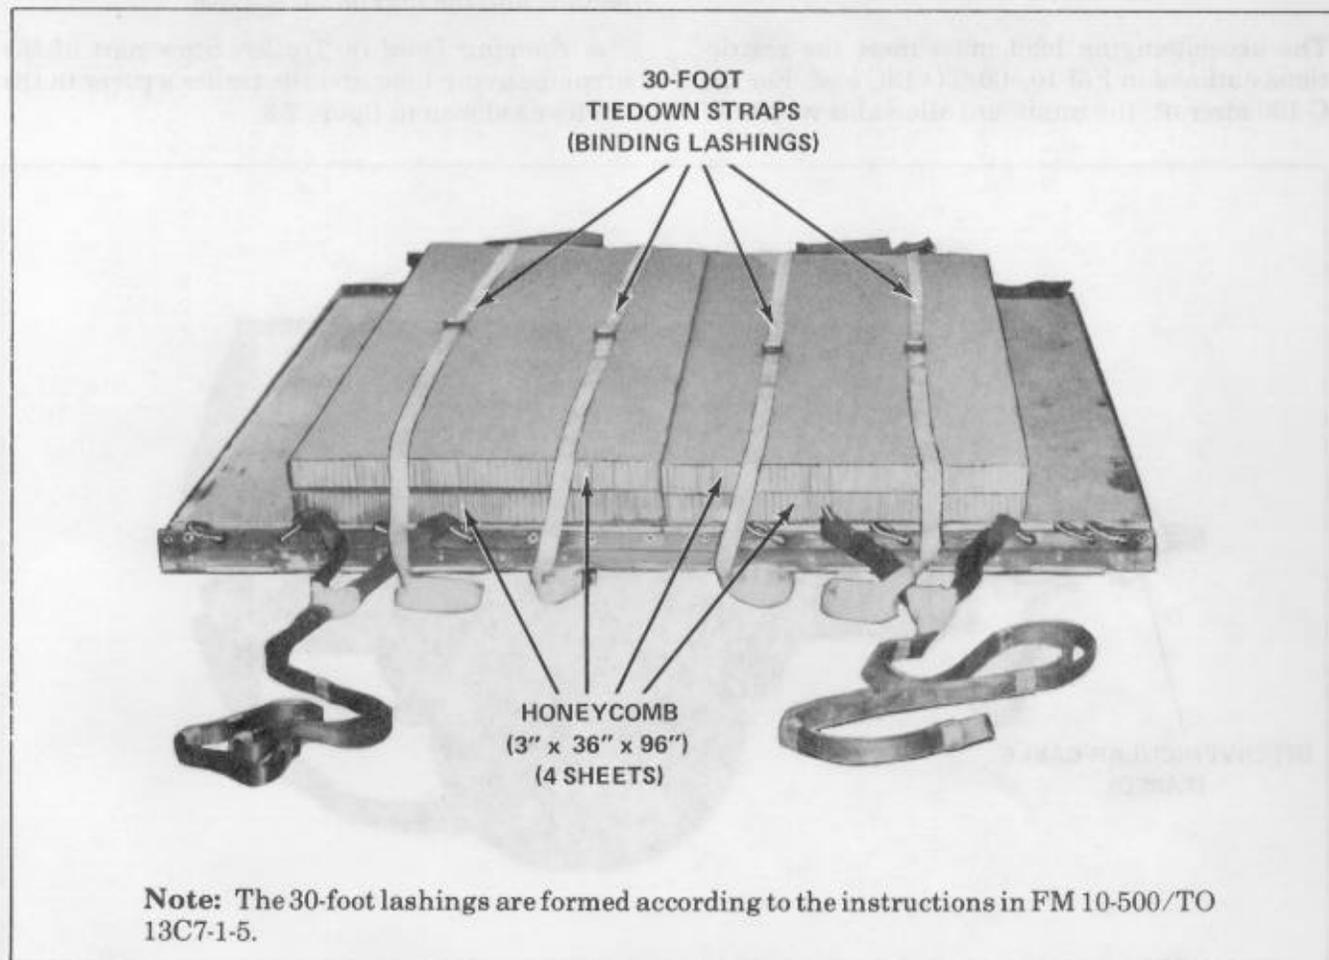

Figure 2-4. Binding lashings and honeycomb sheets positioned.
(1) Position honeycomb sheets and 30-foot tiedown straps (binding lashings) on the load spreader as shown in figure 2-4.
(2) Position seven boxes of 105-mm ammunition on front pieces of honeycomb. Bind the boxes with two of the previously positioned binding lashings. Secure the lashings with two load binders and four heavy-duty D-rings. *Note: Binders must be placed so that they cannot interfere with the positioning of the honeycomb stacks.*